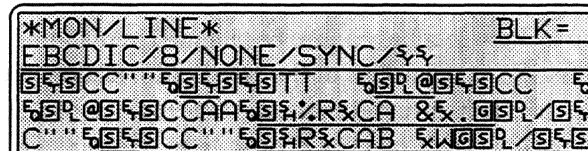

Figure 6-7 Single-line display.
In single-line display (Figure 6-7), DCE (RD) data and DTE (TD) data are displayed alternately on the same line. They are easily distinguishable because DCE data is always underlined. Single-line is the display mode that is most economical of screen-buffer space.